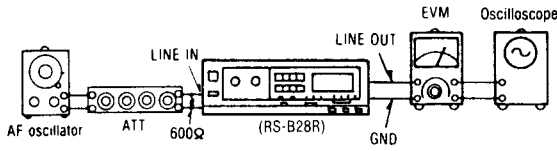

Fig. 16
1. Test equipment connection is shown in fig. 16.